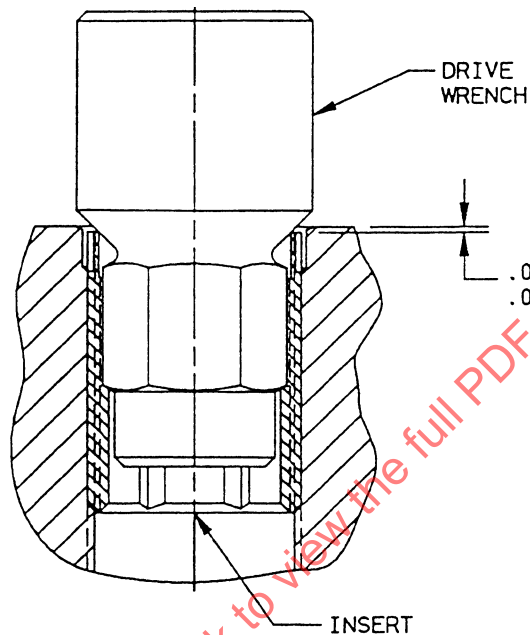

FIGURE 1
- 5.2 Engage the hex of applicable drive wrench into insert and wrench insert into the hole to .010 to .020 depth as shown in Figure 1.